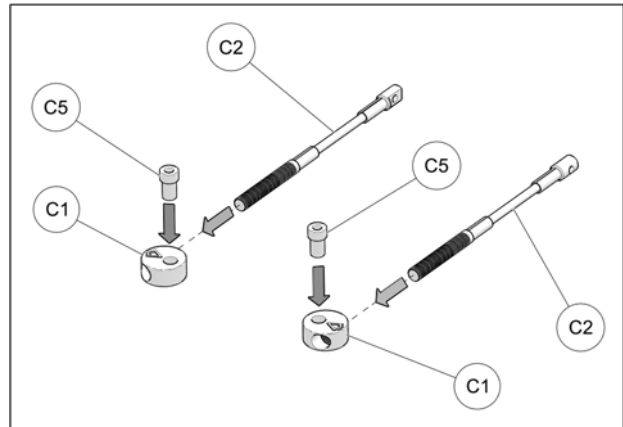

Fig. 25
16. Assemble steering limiter cables (C2), aluminum disks (C1) and step spacers (C5) together as shown on Fig. 25